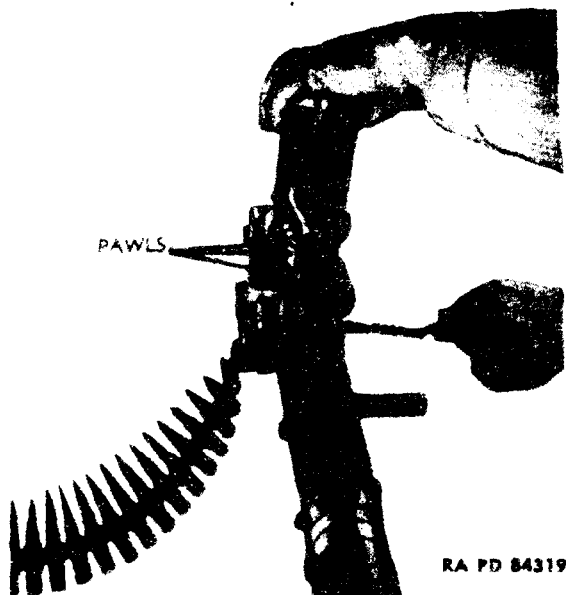

Figure 20 -- Closing of Feed Cover
(4) Close the feed cover, making certain that the three pawls on the underside of feed cover engage the first round (fig. 20), that is, the three pawls are between the first and second rounds.